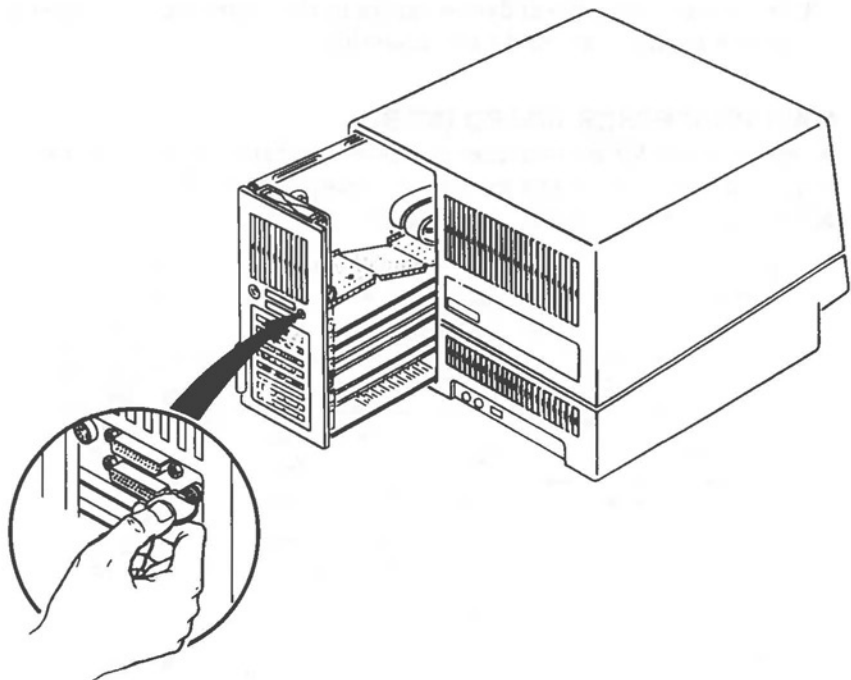

Figure 3-2 Card Rack Assembly Removal
1. Turn the screw-lock that secures the card rack assembly 90 degrees counter-clockwise (see Figure 3-2).
2. Turn the screw-lock that secures the card rack assembly 90 degrees counter-clockwise (see Figure 3-2).
1. Carefully slide the card rack assembly into the back of the computer (refer to Figure 3-2). Push firmly into position until the back panel is flush with the cabinet.